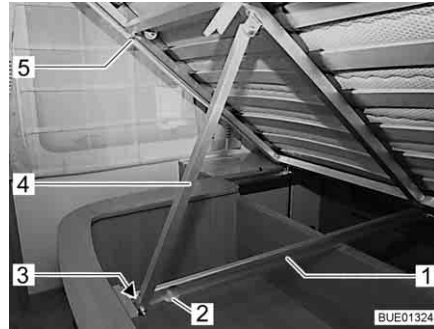

Fig. 108 Fixed bed
- Lift up the slatted frame (Fig. 108,5) and push it upwards until the bar (Fig. 108,4) in the guide rail (Fig. 108,1) has reached the end position (Fig. 108).
- Lift up the slatted frame (Fig. 108,5) and push back the bar (Fig. 108,4) at the lower end. Ensure that the roller (Fig. 108,3) at the end of the bar near the access opening (Fig. 108,2) does not become detached from the guide rail (Fig. 108,1).